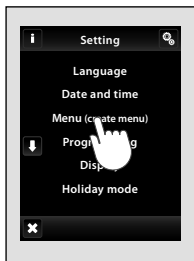

fig. 15
**Menu (create name)** is used to add, edit or remove the names of the controlled device. In this menu (fig. 15) you need to first create your own device names for the sections you want to control.